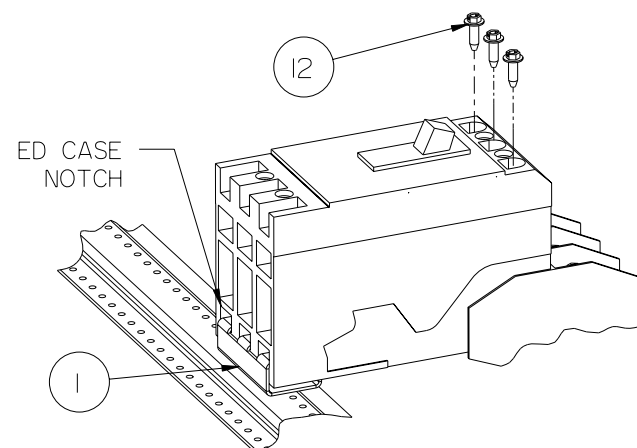

Figure 6
8. Refer to figure 6. - Position a branch breaker with each mounting notch on the load side of its case engaging a mounting tab on the breaker support (item 1) and with its line end angled upward to clear the branch barriers. Pivot the breaker about the support tabs to "rock" it into position, guiding the wings of the barriers as needed to allow each breaker pole to slide into the space between two wings. Bring each breaker line stab into contact with its connector bus and align each breaker stab hole with its corresponding connector bus hole.
9. Fasten each breaker line stab to its connector using a 10-24 X 5/8" screw (item 12), and tighten to the torque value specified on the back of the dead front.